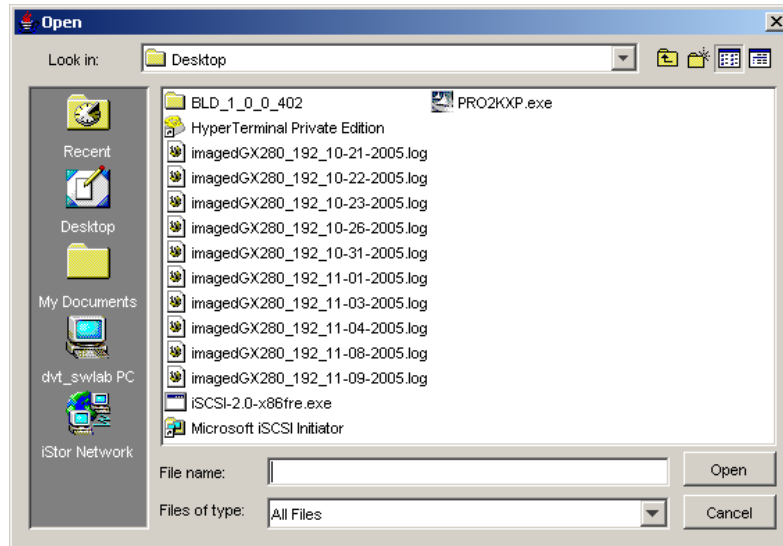

Figure 6-26. Example of the Open Dialog Box
8. Click **OK** to continue. (Or click **Cancel** to exit without upgrading the firmware.) If you click **OK**, the Open dialog box appears (see Figure 6-26).